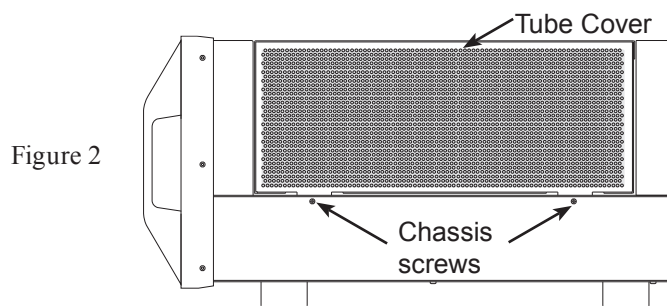

Figure 2
2. Using a Philips Head #2 screw driver, remove the two chassis screws securing the Tube Cover to the chassis on both sides of the MC2301. Refer to figure 2.